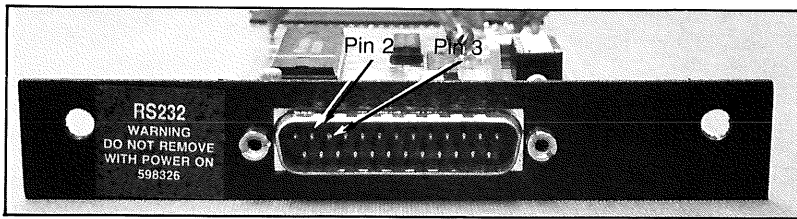

Figure 1. Pins 2 and 3
2. Tie pins 2 (TxD) and 3 (RxD) together. See Figure 1.